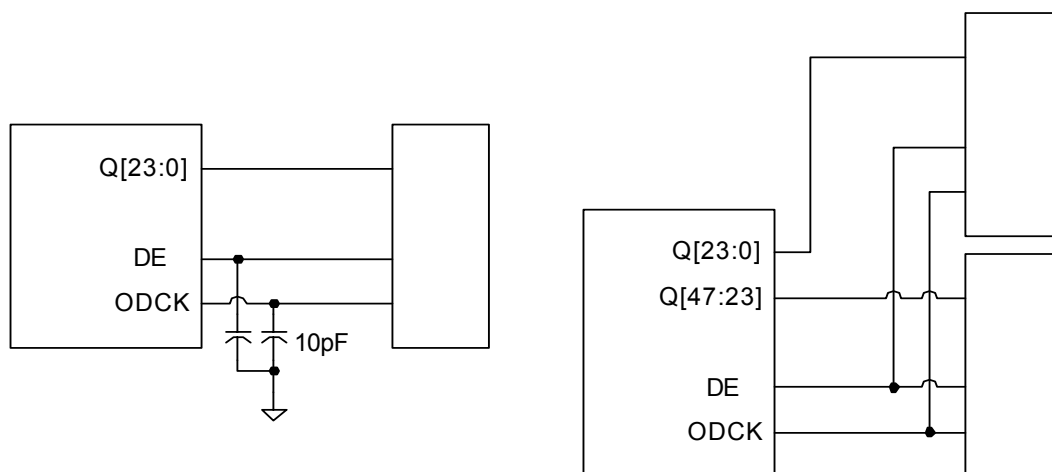

Figure 3. Output Loading in SiI 161B Mode
2. ODCK and DE output pins should be loaded with 10pF when ST=0 and 20pF when ST=1. If layout requires only a point-to-point, one load net, a discrete 10pF capacitor should be added to the net to create these loads. See Figure 3.